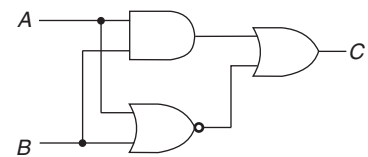

Fig. 5.48
30. Extract the Boolean expression for the circuit given in Fig. 5.48.